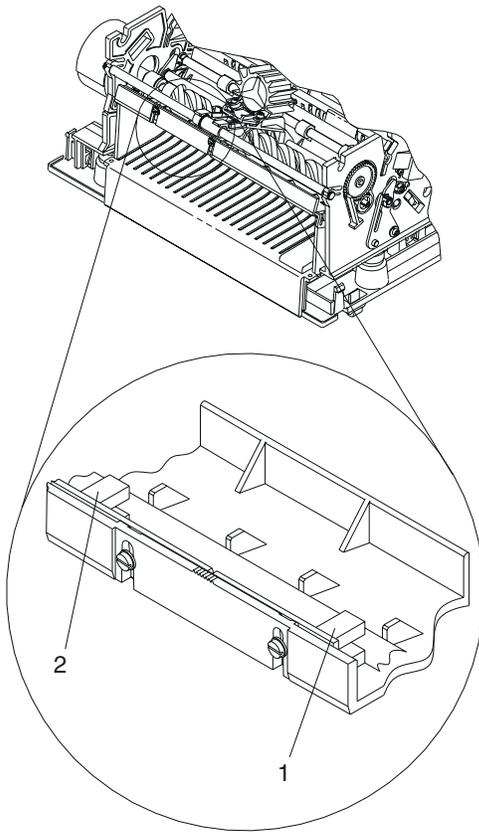

Figure 6-39. Home Sensor Card
- 4 Use a cotton swab dipped in isopropyl alcohol to clean the two home sensors. See Figure 6-39 on page 6-65 for an illustration of the home sensors.